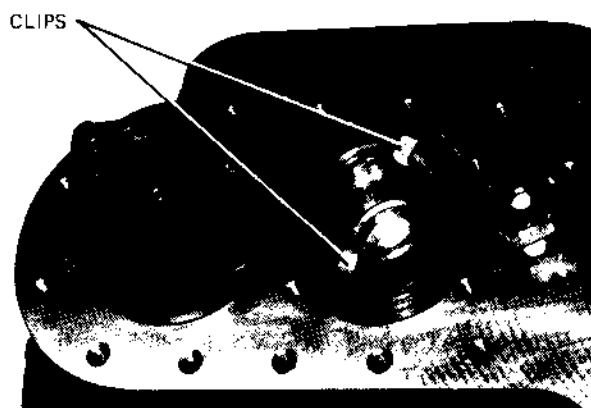

FIG. 9 — INSTALLING SUCTION VALVE
2. To hold the suction valve and springs firmly in place during installation, make up two sheet metal clips to be placed over the discharge valve plate and suction valve as shown in Fig. 9. These clips may be ordered from the Factory - York Part No. 065-01670.